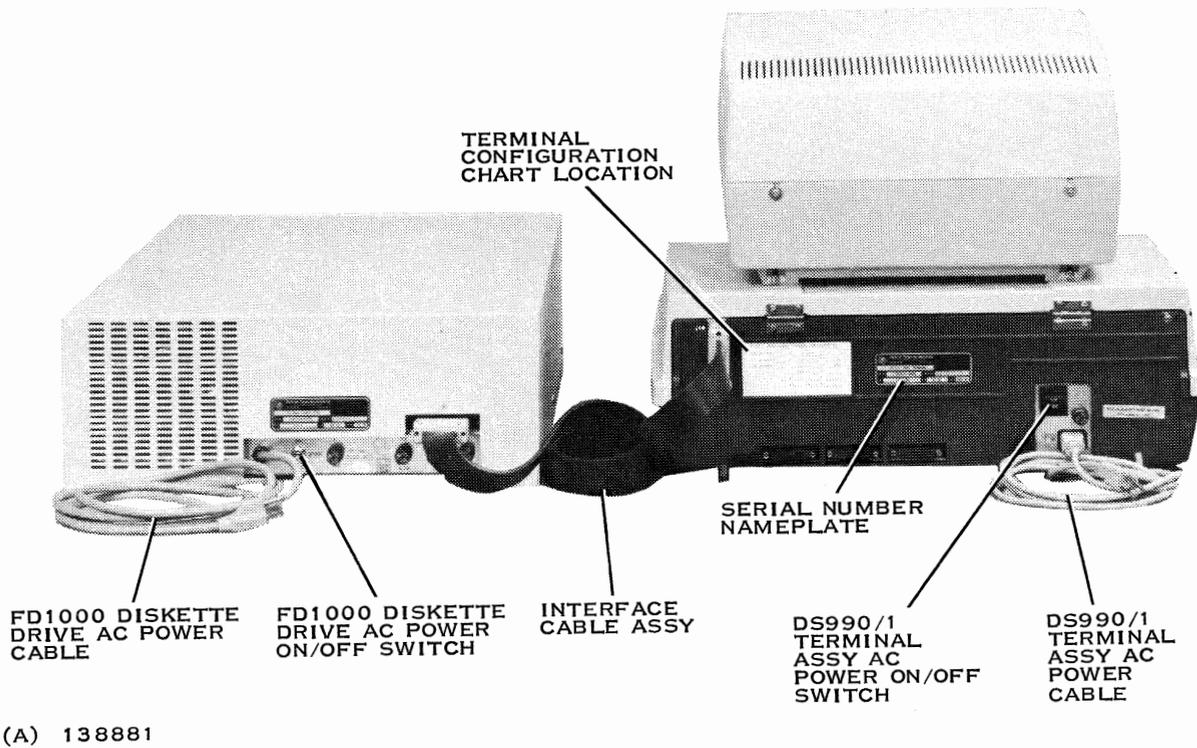

Figure 1-12. Rear View of DS990/1 System
13. Replace the old terminal configuration chart on the back of the DS990/1 terminal assembly (figure 1-12) with item 31, part number 2263584-0003 (figure 1-13). Use the following procedure to fill in the DS990/1 configuration label:
14. Remove the old 770 serial number nameplate (figure 1-12) and replace with item 28 if the unit is a 110-volt model, or item 29 if the unit is a 230-volt model. Discard old serial number nameplate.